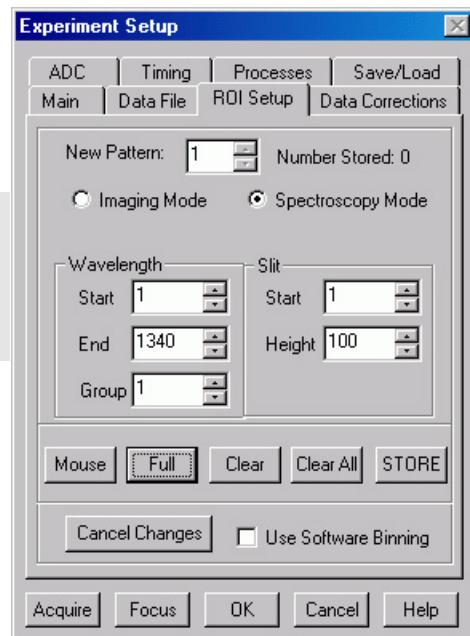

Figure 35. ROI dialog box
6. On the **ROI** tab page select **Spectroscopy Mode** as shown in Figure 35. The **Use Full Chip** selection on the **Main** tab page overrides any ROI settings that may be present.